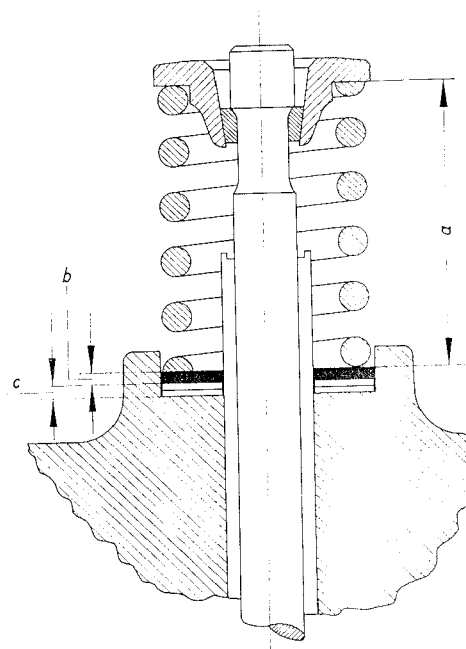

Fig. 7
3. Install valve springs so that the closely wound coils are nearest the cylinder head and rest on the steel washer (Fig. 7).